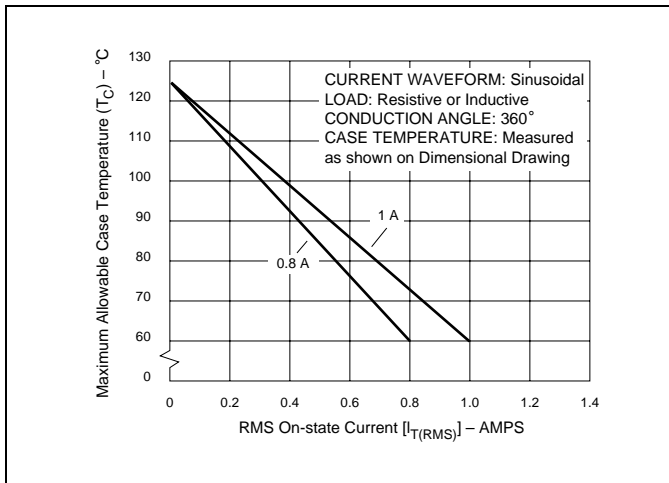
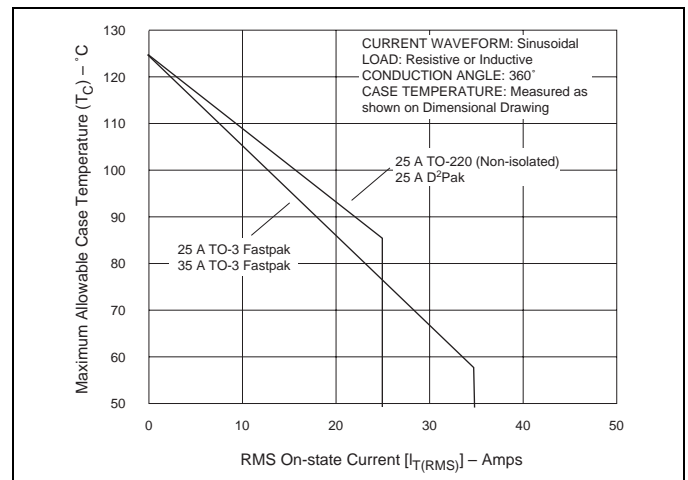
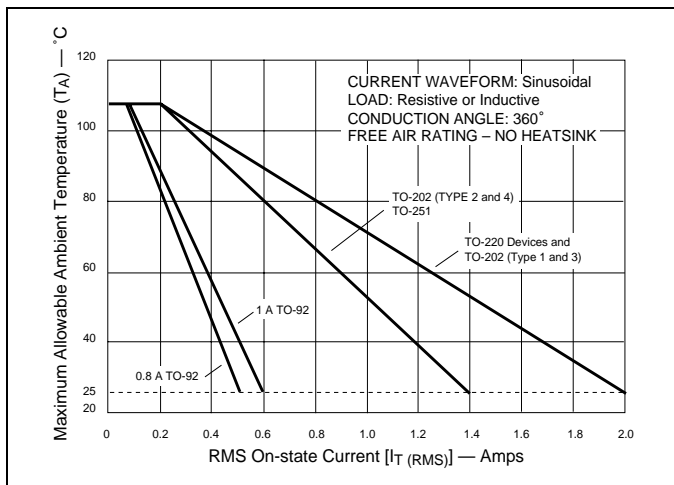
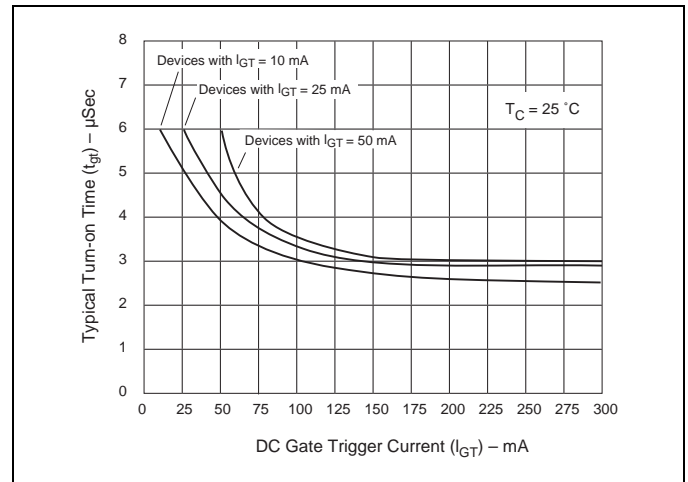

Figure E2.1 Maximum Allowable Case Temperature versus On-state Current (0.8 A and 1 A)
Figure E2.6 Maximum Allowable Case Temperature versus On-state Current (25 A and 35 A)
Figure E2.7 Maximum Allowable Ambient Temperature versus On-state Current
Figure E2.15 Turn-on Time versus Gate Trigger Current (Typical)
- (1) For either polarity of MT2 with reference to MT1 terminal
- (2) For either polarity of gate voltage (V_{GT}) with reference to MT1 terminal
- (3) See Gate Characteristics and Definition of Quadrants.
- (4) See Figure E2.1 through Figure E2.7 for current rating at specific operating temperature.
- (10) See Figure E2.15 for t_{gt} versus I_{GT} .
- (11) See package outlines for lead form configurations. When ordering special lead forming, add type number as suffix to part number.
- (12) Initial on-state current = 200 mA dc for 0.8 A to 10 A devices, 400 mA dc for 15 A to 35 A devices
- (13) See Figure E2.1 through Figure E2.6 for maximum allowable case temperature at maximum rated current.
- (14) Pulse width $\leq 10\text{ }\mu\text{s}$; $I_{GT} \leq I_{GTM}$
- (15) $R_L = 60\text{ }\Omega$ for 0.8 A to 10 A triacs; $R_L = 30\text{ }\Omega$ for 15 A to 35 A triacs
- (16) $T_C = T_J$ for test conditions in off state
- (17) $I_{GT} = 300\text{ mA}$ for 25 A and 35 A devices
- (18) Quadrants I, II, III only
- (19) Minimum non-trigger V_{GT} at 125 °C is 0.2 V for all except 50 mA MAX QIV devices which are 0.2 V at 110 °C.